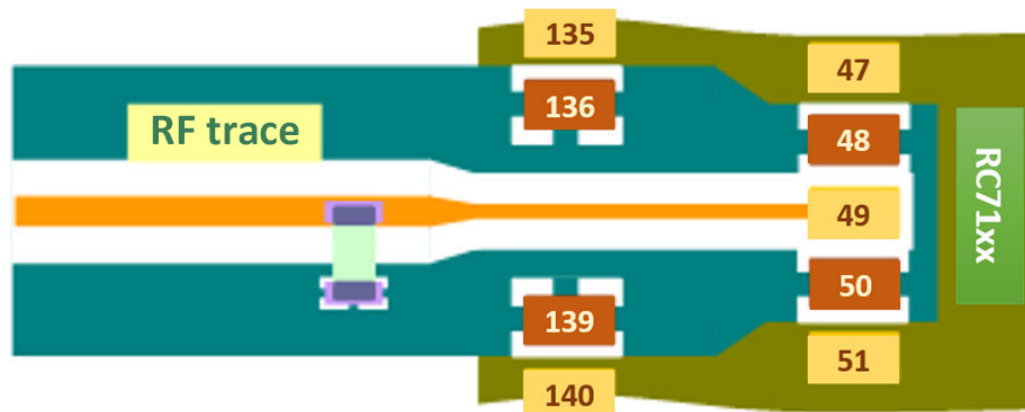

Figure 5-4: Trace width and component pad
- The antenna interface (RF\_MAIN) and related GND pads should be considered as an integrated part of the radio input/output (see Figure 5-4).
As shown in Figure 5-4, part of the RF trace is routed under the module. To account for the metallic mass of the module, the RF trace width may need to be slightly reduced before going under the module. Thus, under the module, the structure of the RF line becomes a stripline.